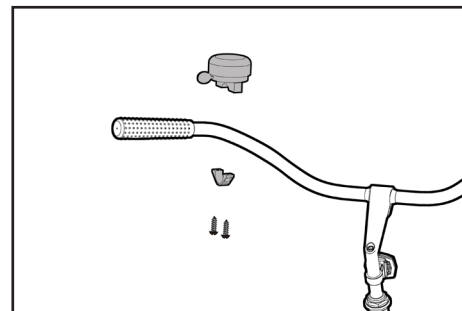

Figure 40
To install the bell on your bike, use the (A) Standard Phillips Head Screwdriver to remove the two screws from the mount, along with the bottom half of the bell mount. Place the top half of the bell mount within easy reach of your thumb on the handlebars, place the bottom half of the bell mount in place around the handlebars, and reinsert and tighten the screws (see Figure 40).